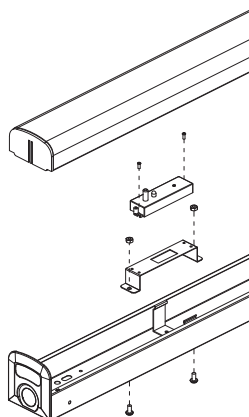

Fig 2
1. Screw the bracket to the housing as shown in Fig.2.